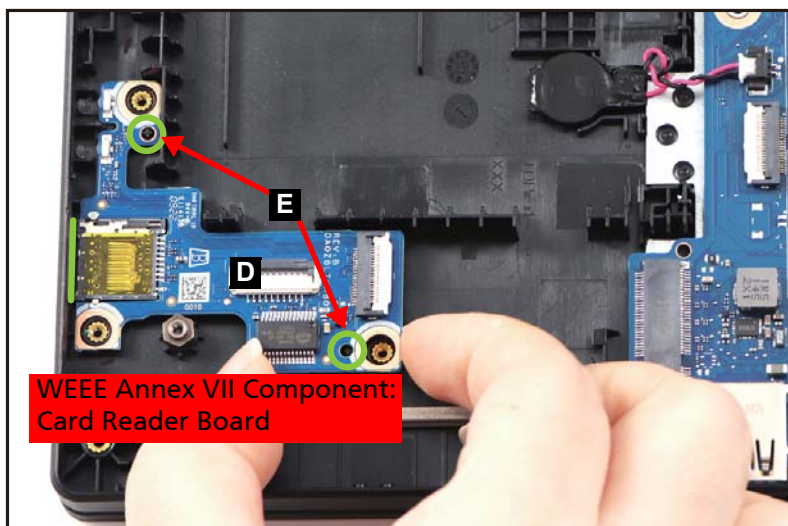

Figure 1-37. Card Reader Board Removal
4. Release the card reader board (D) from the card reader slot and guide pins (E) (Figure 1-37). Then remove the board from the top assembly.